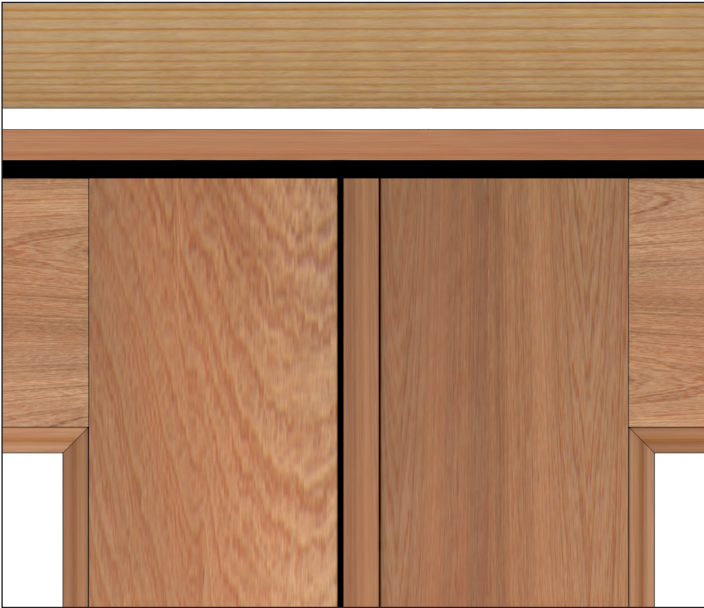

Figure 19
1. Check the panel(s) for proper alignment. You may need to adjust one or more screws. Panels should be flush and align along the head jamb. There should also be an even reveal between the panel and frame. See figure 19.